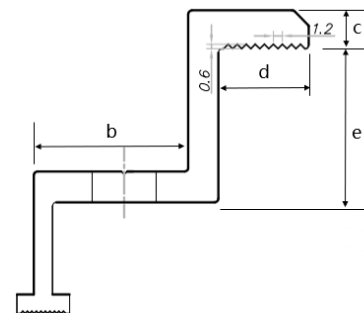

Figure 13 Cross section diagram of fringe clamp
- ⑦ To prevent modules from coming off the fixed device after installation, it is suggested to choose fringe and mid clamps and make contact with the A side of the frame with groove patterns. Suggest to have 9 patterns with a space between 2 adjacent patterns of 1.2mm and a depth of 0.6mm, as shown in figure 13.